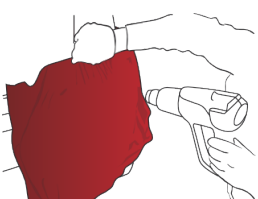

Figure 16
- › After this operation, heat to a temperature ranging from 40 °C to 50 °C (from 104 °F to 122 °F) (FIG. 16) and stretch the film.